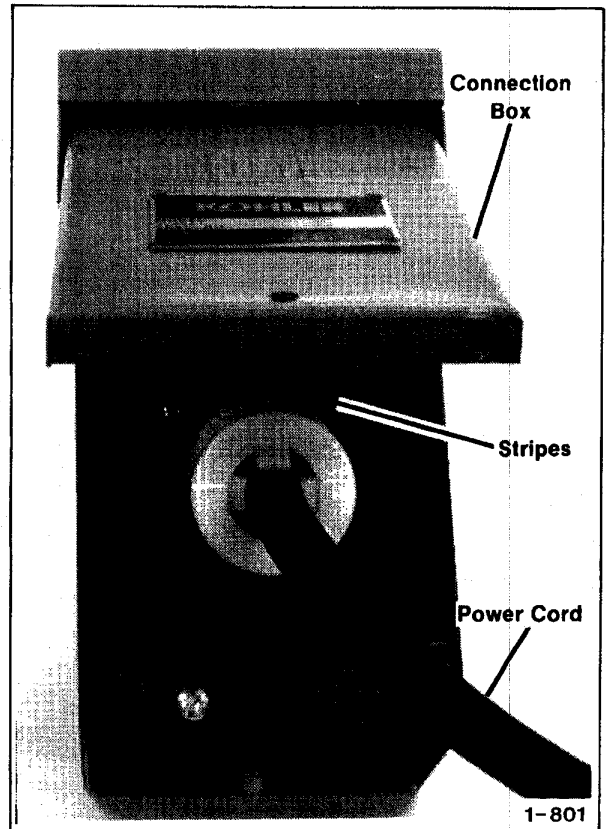

Figure 1-6. Plug into Connection Box
4. Plug receptacle end of power cord into connection box with red stripes aligned as shown in Figure 1-6, and turn clockwise to lock.